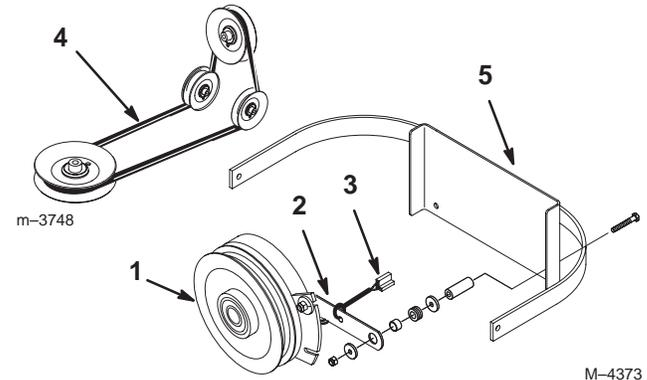

Figure 58
2. Remove the clutch retaining strap from the machine frame and unplug the clutch terminal from the wire harness (Fig. 58).
7. Install the clutch retaining strap and plug the clutch terminal into the main wire harness (Fig. 58).